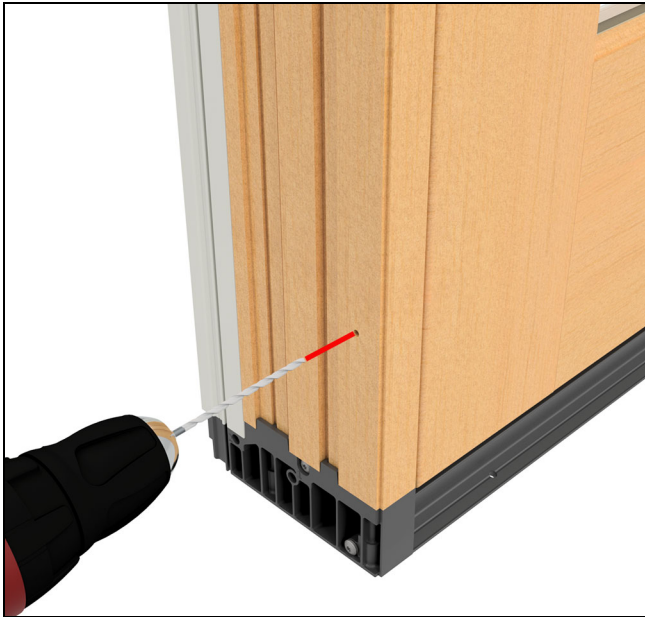

Figure 43
16. Hold the panel in place and use the holes in the side jamb to pre-drill into the panel with a 1/8" drill bit. See Figure 43.